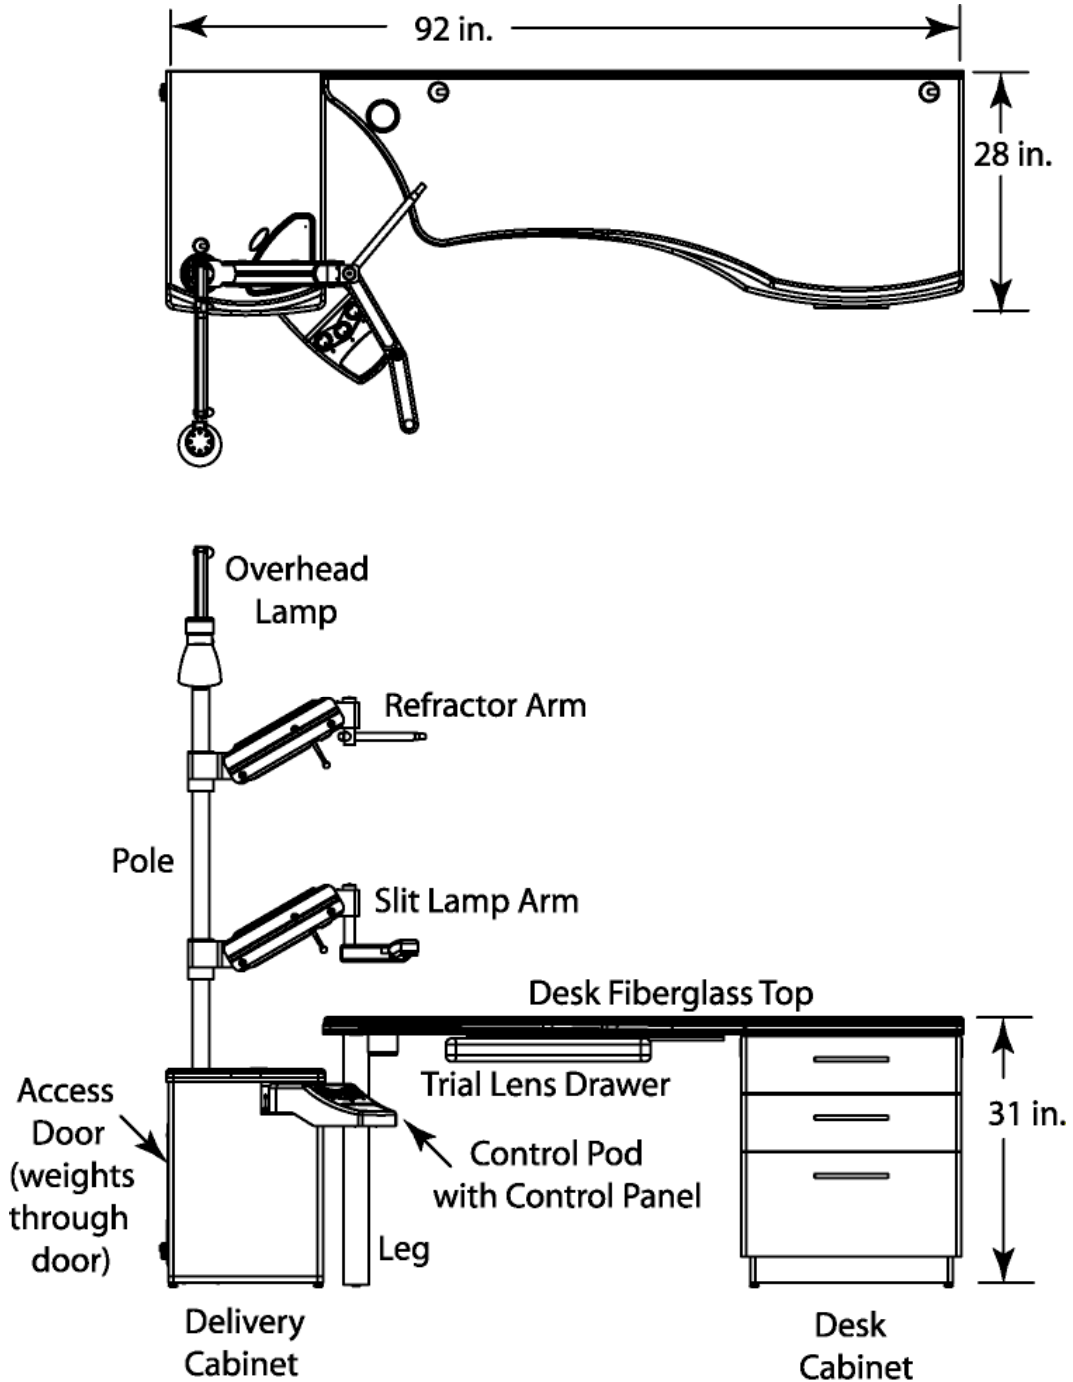

Figure 1: Omni PINNACLE (Right Hand System shown)
Figure 1 shows the primary features and key components of the Omni PINNACLE. Use the figure as a reference. Other components of the Omni PINNACLE are defined in their own manuals.
3.2.1 Unpack the Omni PINNACLE and allow the unit to come to room temperature. The standard components of the Omni PINNACLE are as follows: delivery cabinet, counter weights (3), desk cabinet, counterbalanced refractor arm, counterbalanced slit lamp arm, pole, lamp, and accessory kit. Use Figure 1 to identify the main components for all assembly steps. Options are supplied as ordered and the available options are; dual fixed arm (instead of a counterbalanced slit lamp arm), indirect hanger, indirect wall-mount kit, overhead cabinet, sink cabinet, fixation targets, and fluorescent roomlight kit.
- 3.2.9 Flip the top and place the fiberglass top (sculptured end) next to the delivery cabinet (see Figure 1 for the proper right-handed orientation, left handed systems are the mirror image) and on top of the desk section. Tighten to the desk section with screws into inserts. Securely tighten the four (4) 3/8-16 inch screws and 3/8 inch flat washers using a 7/32 Hex wrench.